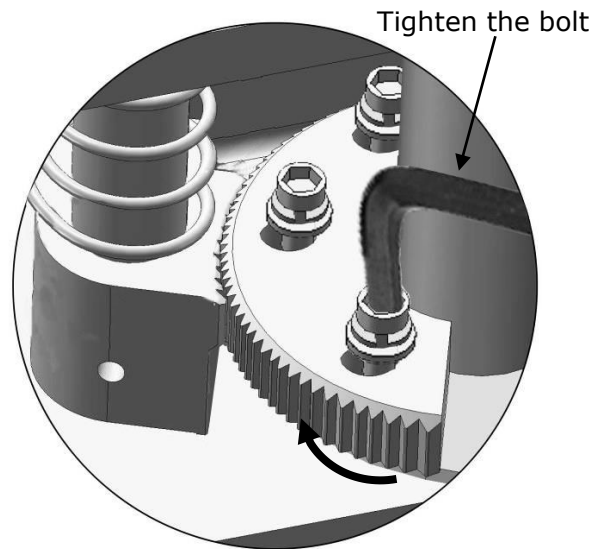

Fig. 38
4. Adjust moon gear and arm lock to make it to be meshed, then tighten the socket bolts of arm lock (**See Fig. 38**).